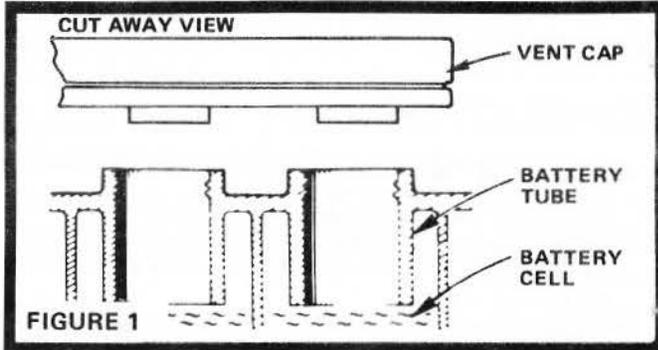

FIGURE 1
- a. Fill Battery with electrolyte to bottoms of tubes in cells (Fig. 1). **NOTE: DO NOT OVERFILL. OVERFILLING WILL RESULT IN DAMAGE TO TRACTOR.**